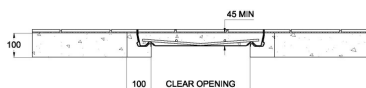

Figure 7 – Rebate for 330kg nominal wheel load
1. Form the access pit and rebate to the size required. See Figures 7, 8 & 9 for the recommended rebate dimensions for the required class load.
To support the anticipated loads, the rebate must be cast according to Figures 7, 8 & 9. ACO's standard installation recommendations can be downloaded from ACO's website: http://www.acoaus.com.au/install_drawings_access.htm